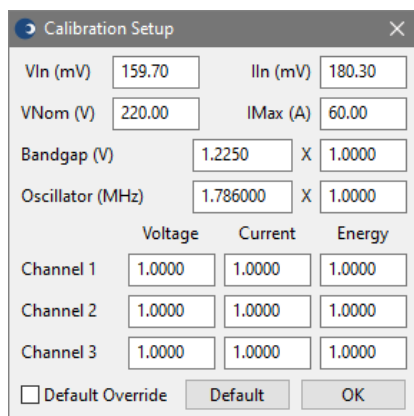

Figure 12: SA5301A-Demo, Calibration Setup window
- Click “Calibrate” to bring up the Calibration Setup window, Figure 12. There are 4 initial setup requirements that need to be done. Set the VNom and IMax values to the V_{NOM} and I_{MAX} values used during the RM5301ASAR module design. Also the VIn and IIn values need to be set to the input voltages at V_{NOM} and I_{MAX} that were calculated during the module design. All other values can be left at default for now.
Some aspects of the calibration feature have already been discussed in the setup section. The following is a brief description of the additional calibration features that can be used to correctly calculate the measured quantities from the SPI register data. Refer to Figure 12.